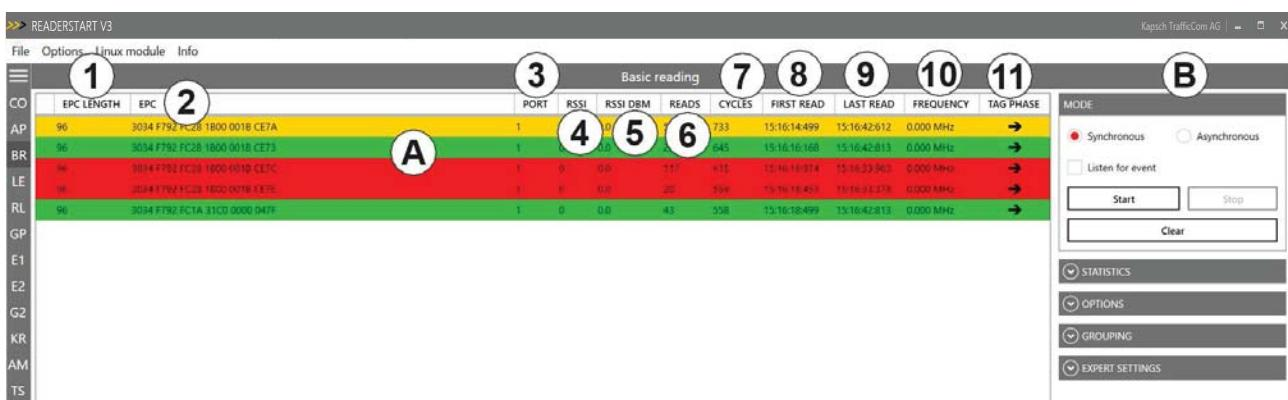
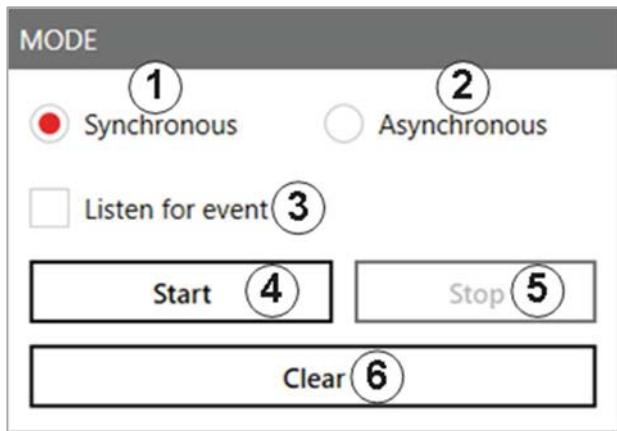

Figure 31 Basic reading
Figure 32 Basic reading: mode
- ▶ Click *Start* (④) in Figure 32 to start the reading.
- ▶ Click *Stop* (⑤) to stop the reading.
- ▶ Click *Clear* (⑥) to remove all tag entries from the table (□ in Figure 31)